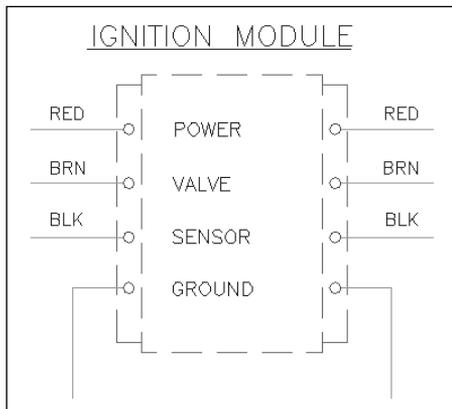

Figure 13-31: The text on the right was mirrored with MIRRTEXT set to 0.
8. Repeat the mirror operation using the same instructions as in Step 5. This time the command mirrors the objects, but the text reads properly, as shown in Figure 13-31.